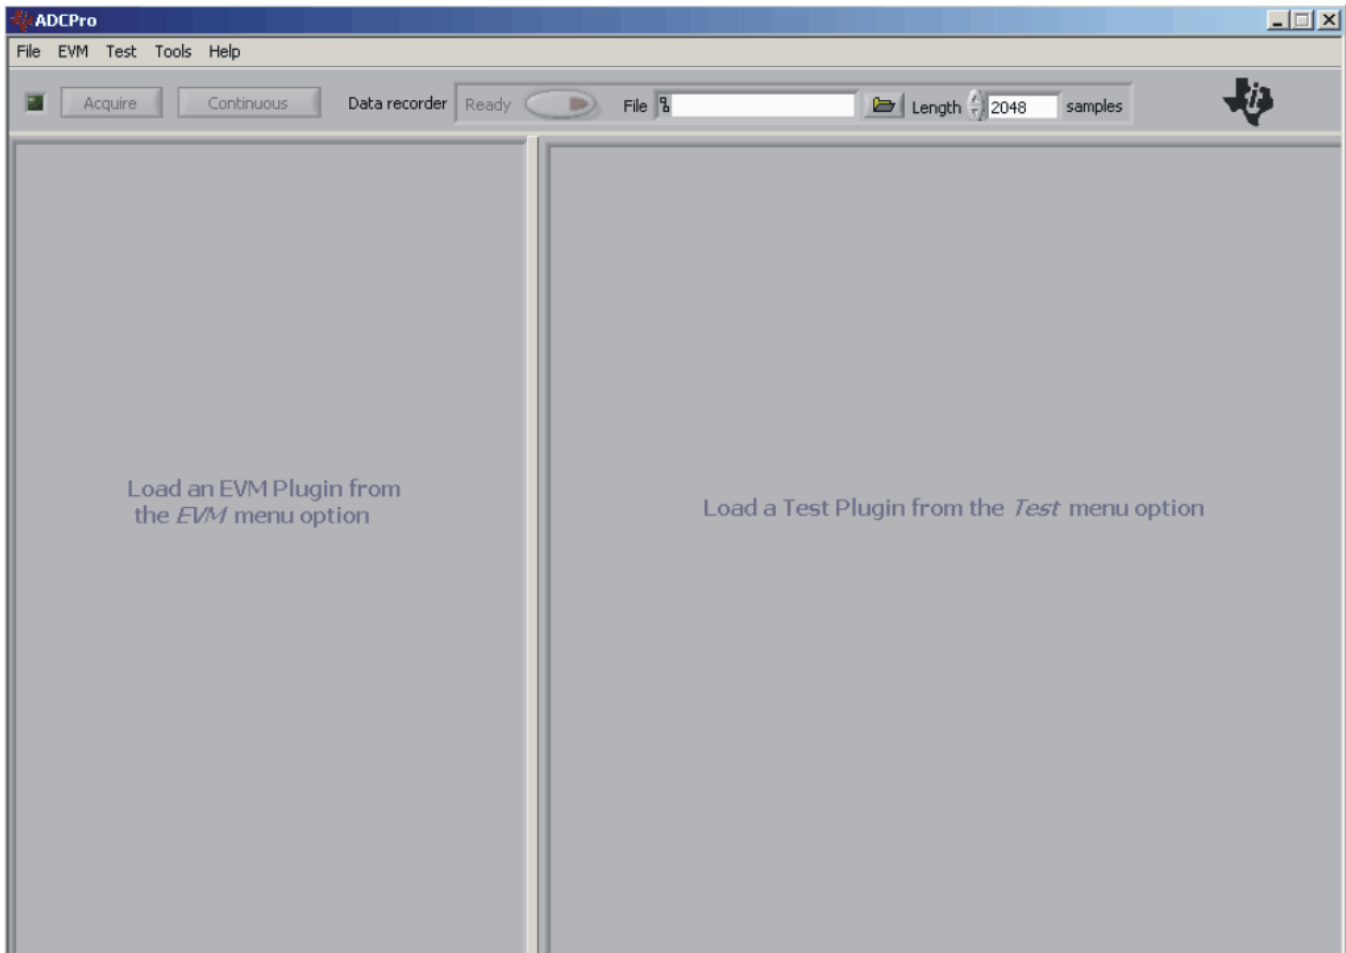

Figure 9. ADCPro Software Start-up Display Window
- Step 1. Start the software by selecting *ADCPro* from the Windows Start menu. The screen in Figure 9 appears.